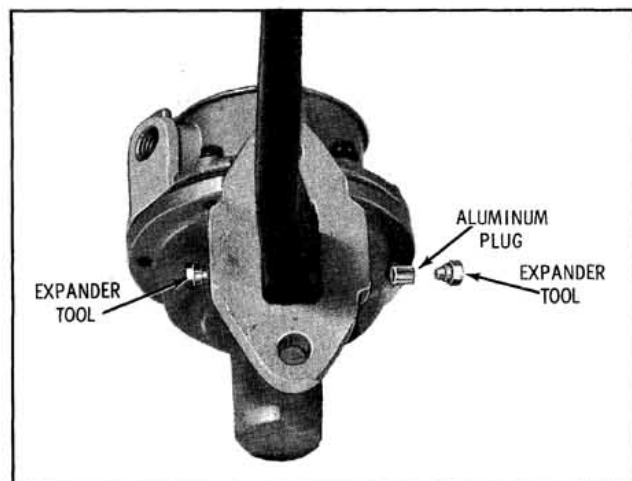

Fig. 3-139 Installing Rocker Arm Pin
8. Position an expander tool, furnished in the kit, against each aluminum plug. (Fig. 3-139)